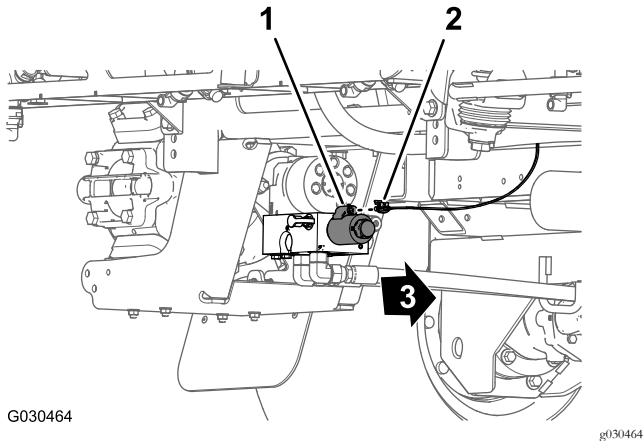

Figure 40
5. At the back of the machine—inboard of the sprayer pump, disconnect the 2-socket connector of the rear, main harness from the 2-pin connector of the relay for the pump (Figure 40).